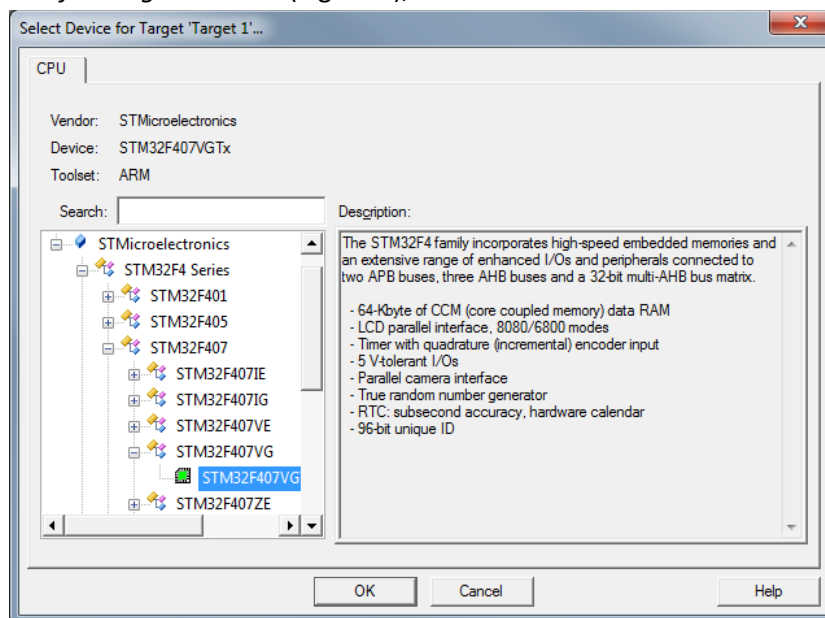

Figure 2. Select the STM32F407VG microcontroller.
2. In the *Select Device for Target* window (Figure 2), select microcontroller **STM32F407VG**.